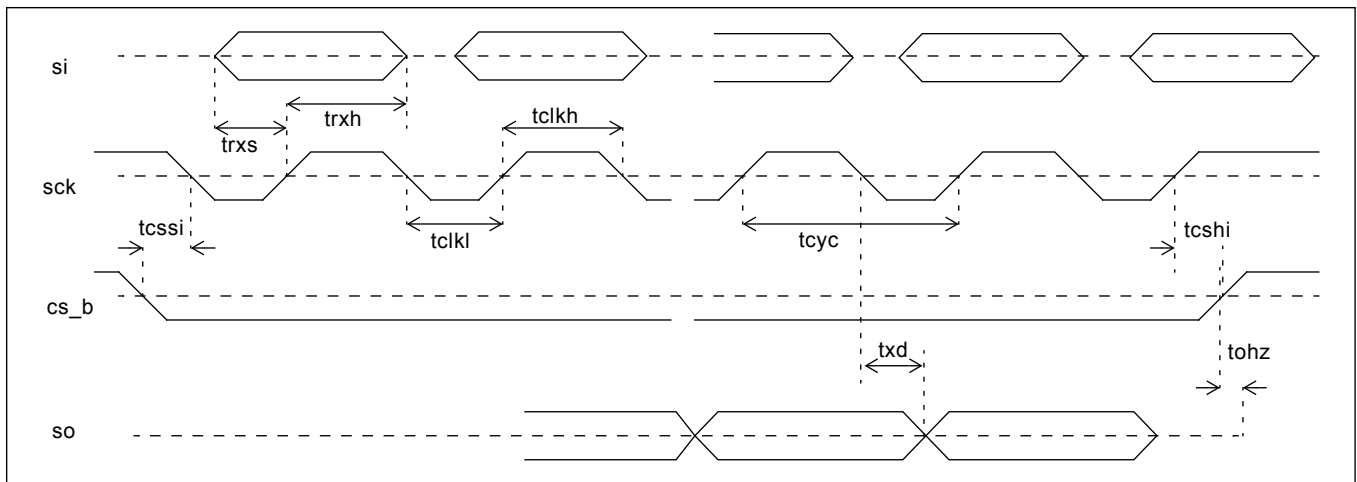

**Figure 26 - Output Timing Referenced To hpclkout0**
**AC Electrical Characteristics\* - Outputs (see Figure 26).**